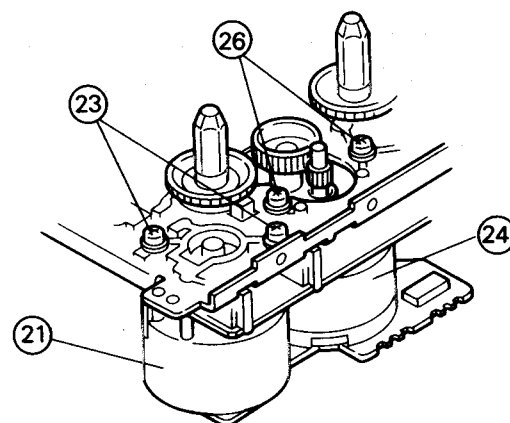

Fig. 7-31
■ Reel and Actuator Motor Ass'y (Refer to Figs. 7-31 and 7-32)
1. Remove the four screws (23) and (26) retaining the reel motor (21) and actuator motor (24) ass'y (Refer to Fig. 7-31).